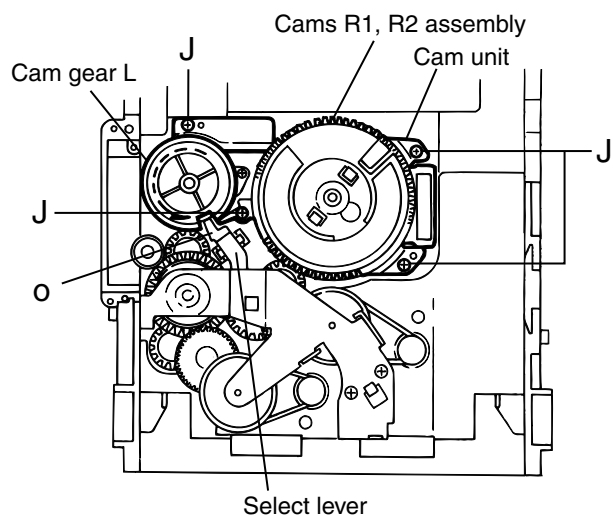

Fig.18
4. While turning the cam gear L, align the pawl o position of the select lever to the notch position(Fig.18) on the cam gear L.
5. Remove the four screws J retaining the cam unit(cam gear L and cams R1/R2 assembly)(See Fig.18).